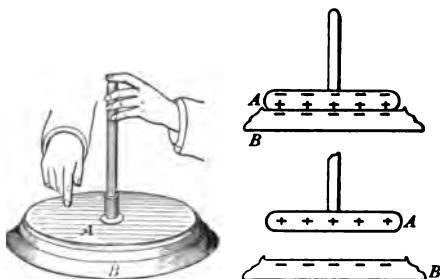

FIG. 219. — Electrophorus.
**254. Induction machines for producing electricity.** The simplest machine for producing electricity by induction is the **electrophorus**. It consists of a hard rubber disk and another somewhat smaller metal disk, which is provided with an insulating handle (Fig. 219).